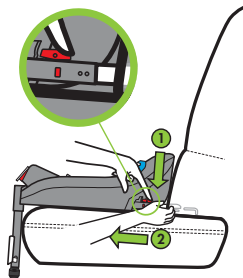

Figure 53
Release the UAS Connector by pressing down (1) and sliding back (2) the red UAS Release Button, as shown in **Figure 53**. When the Connector releases, the indicators will turn from green (locked) to red (unlocked).